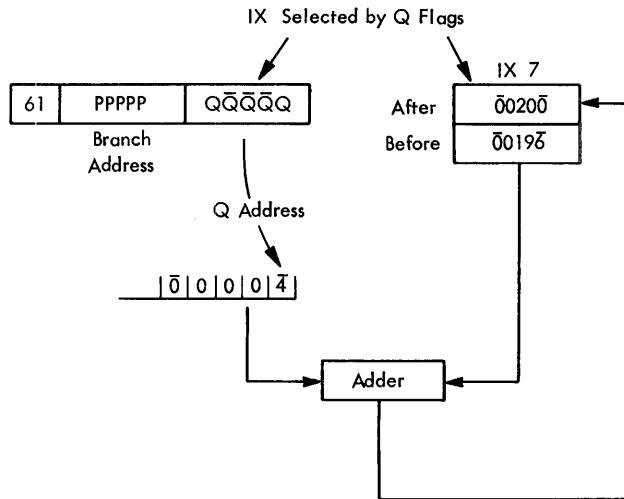

Figure 60. Branch and Modify Index Register
*Description.* This instruction is used for index register modification. The field designated by the Q address is added to the selected register. The index register is selected by flags in the  $Q_8 - Q_{10}$  positions of the instruction (Figure 60).